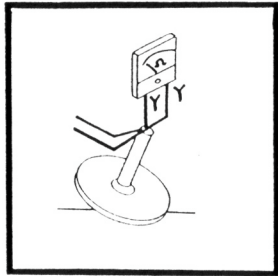

Figure 7
- 6.** A faulty thermostat will not prevent unit from charging, however the output from the generator will be permanently restricted by either the choke to a maximum of 2 Amps or the dual rectifier to 60% of the power. To check the thermostat remove the two yellow wires from the hub shaft when the hub is cold, check with an Ohms meter scale for zero reading. If the reading is infinite either the windings are hot or the thermostat is faulty, refer to the manufacturer or your dealer (Fig.7).